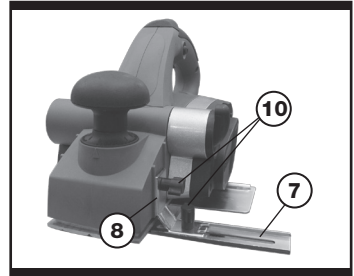

Fig. 6
5. USING THE PARALLEL GUIDE (See Fig.6)